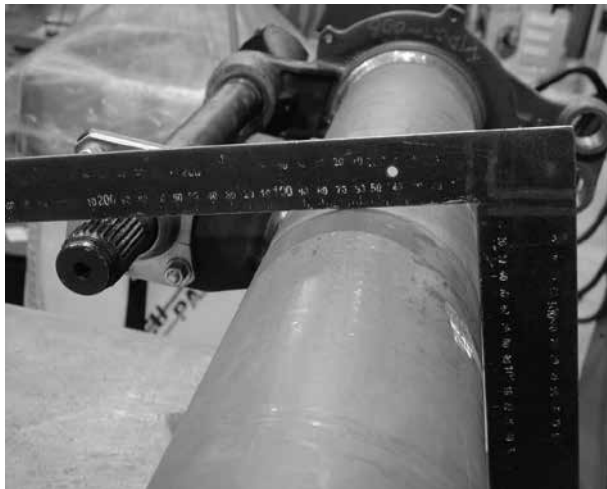

Figure 7: Framing square helps position brake chamber bracket
3. Place a framing square on the axle contacting the camshaft splines as shown in Figure 7 and Figure 8.